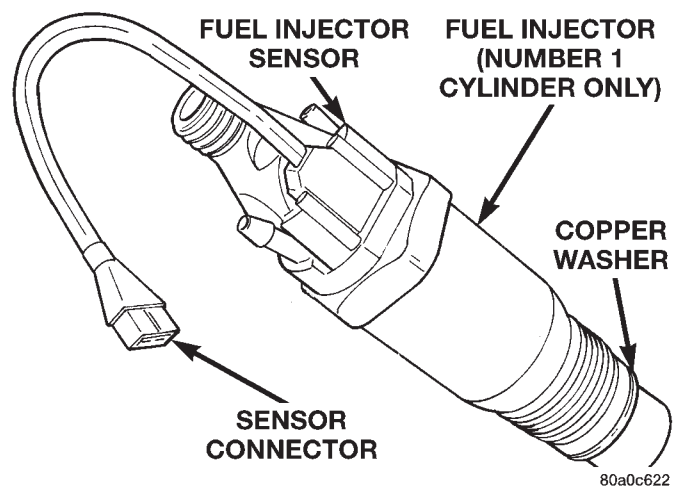

Fig. 17 Fuel Injector Sensor
(10) Verify that the fuel heater electrical connector is firmly attached to the filter bowl at the bottom of the fuel filter/water separator. Inspect the connector for corrosion or damaged wires.
(11) Verify that the electrical pigtail connector (sensor connector) (Fig. 17) for the fuel injector sensor is firmly connected to the engine wiring harness. Inspect the connector for corrosion or damaged wires. This sensor is used on the #1 cylinder injector only.